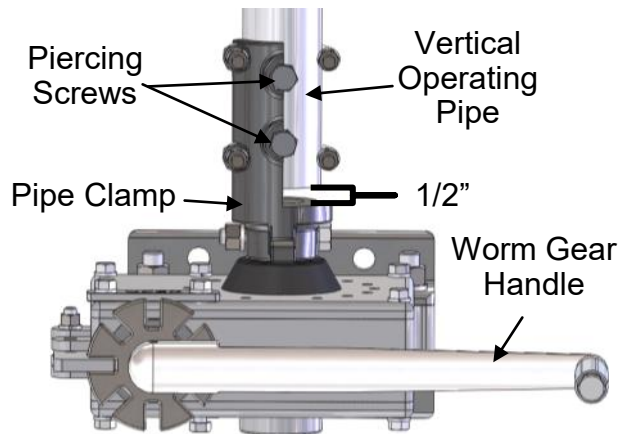

Figure 25 — Worm Gear
- 1. Mount the gear box to the pole and cut the vertical operating pipe so that it sits a half inch above the pipe clamp ledge as shown in Figure 25. Refer to the Control Mechanism Drawing for proper mounting to the pole.
- 4. Loosen the u-bolts and piercing screws. Without rotating the vertical operating pipe, rotate the worm gear handle until the pipe clamp is positioned as shown in Figure 25. Tighten the u-bolts and pierce the piercing screws at this time.